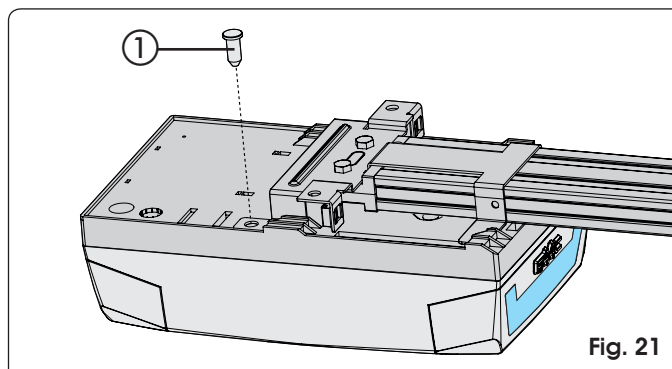
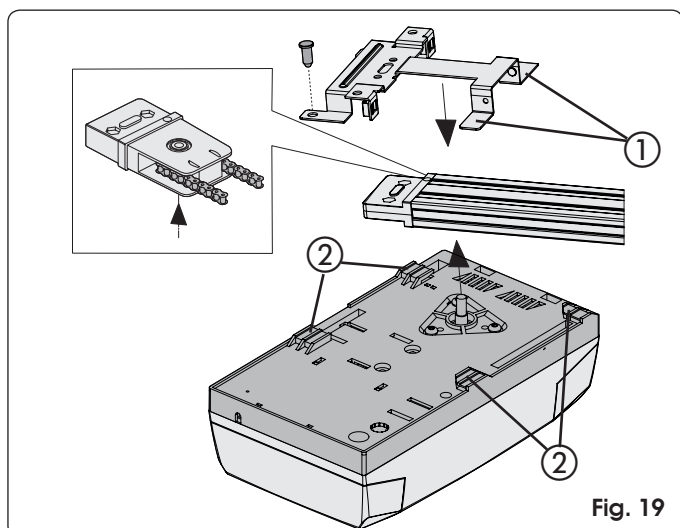
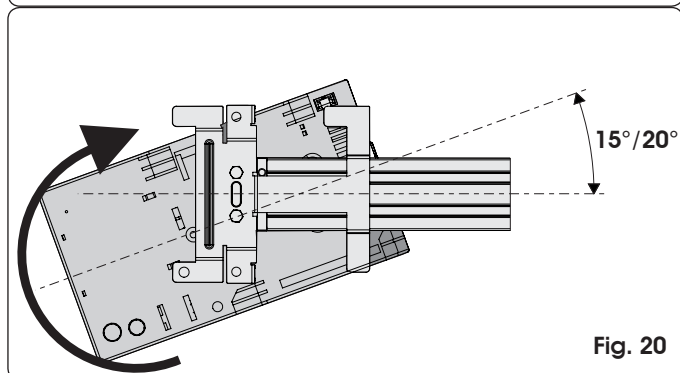

Fig. 21
Fig. 19
Fig. 20
- 1) While keeping the operator inclined at 15°/20° (Fig. 20), insert the gearmotor shaft in the coupling on the rear fitting of the sliding guide and make the fins (Fig. 19 ref. ①) near to the seats at the bottom of the operator base (Fig. 19 ref. ②).
- 2) Turn the operator in the direction of Fig. 20 until you reach position of Fig. 21, and fit the pin in the hole of the rear fitting (Fig.21 ref. ①).